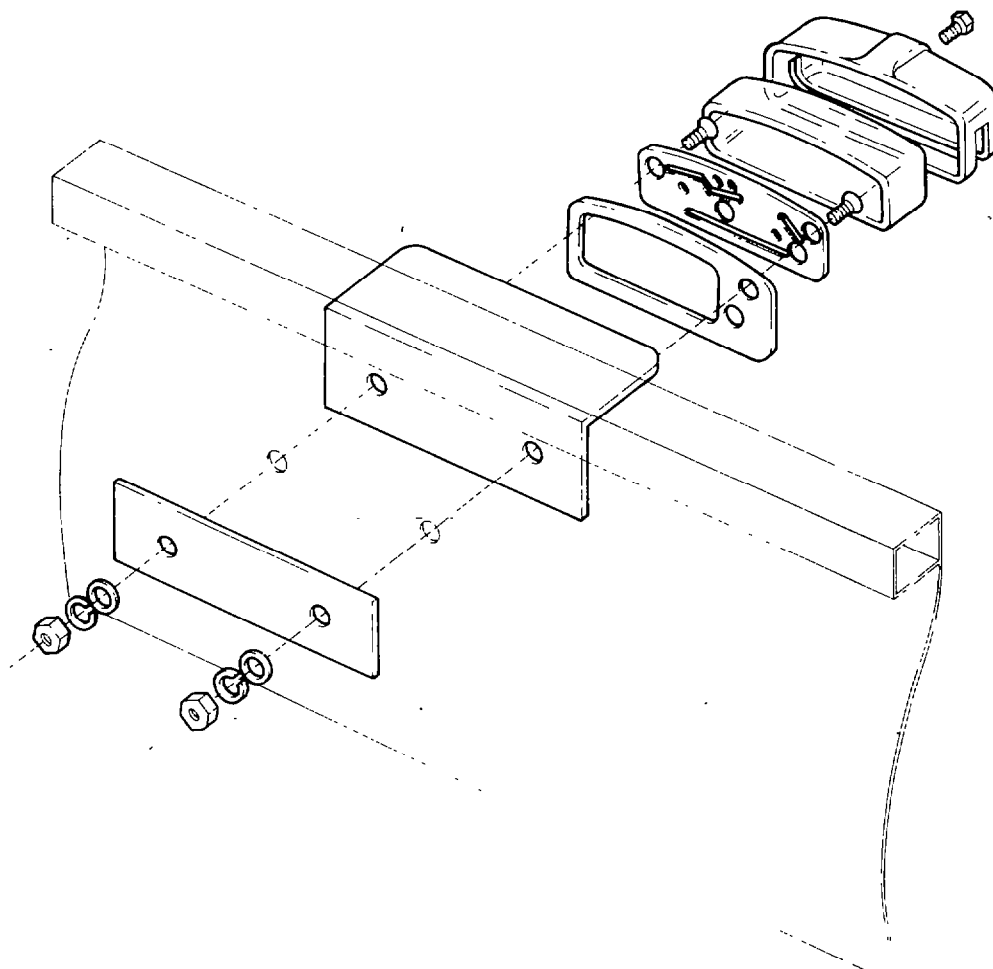

FIG 2
- Fit protector plate and number plate light to vehicle as shown in Fig 2.